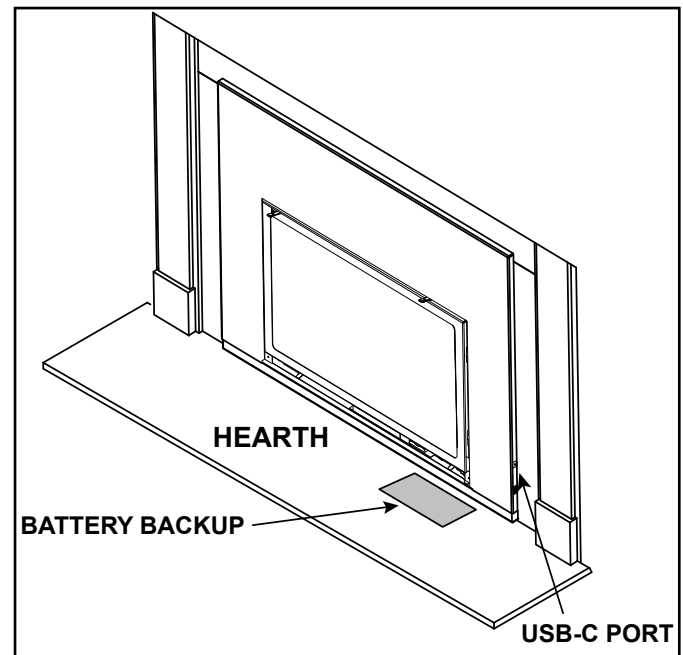

Figure 3.6
5. Locate the USB-C connector on the appliance as shown in Figure 3.6. Remove rubber plug from the USB-C port and insert the battery backup power source USB-C connector into the appliance USB-C port. Save USB-C rubber plug for reusing after power has been restored.
6. Place the battery backup power source away from any heat source and hot surface to the extent possible. Excessive heat will reduce the battery life. See Figure 3.6.